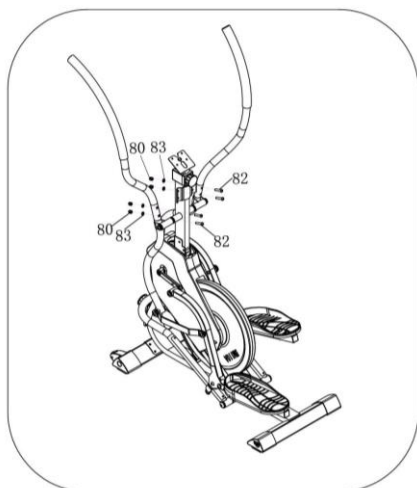

Figure 7
Put the Left & Right Handle Bar Set (F) and (G) onto the Swing Handle Bar Frame. Use wrench (93), and lock it by the 4pcs Bolt (82), 4pcs Wavy Washer (83) and 4pcs Nut (80), as shown in Figure 7.